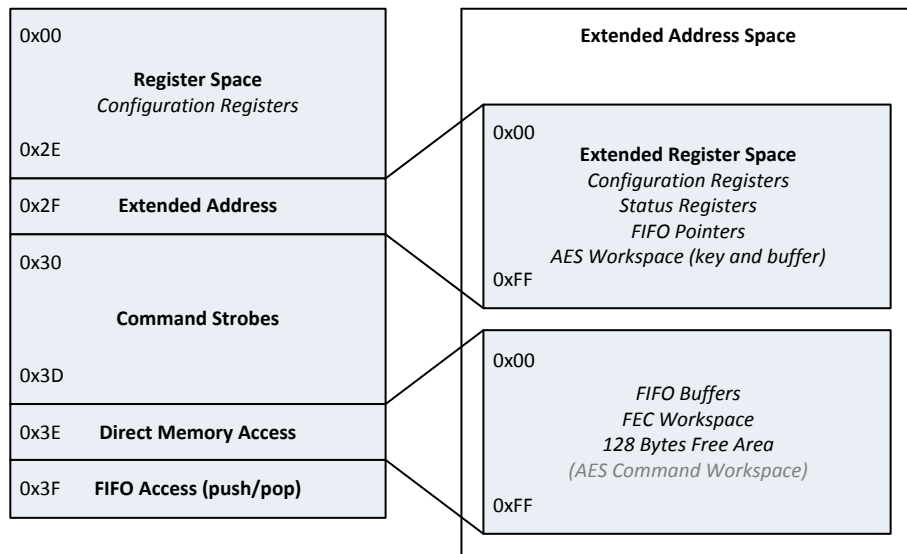

Figure 4: SPI Memory Map¹
Figure 4 shows the SPI memory map and the following sections are going to explain how the different SPI access types (see Table 3) should be used. Table 4 shows the SPI address space.
The configuration registers on the **CC120X** are located on SPI addresses from 0x00 to 0x2E (register space) with address extension command at address 0x2F to access the extended register space (see Figure 4). All configuration registers can be both written to and read and this is controlled by the R/W bit in the header byte. All configuration registers can also be accessed with the burst bit (B) set to either 1 or 0. Note that all registers in register space (address 0x00 - 0x2E) have retention. In extended register space, the status registers, FIFO pointers, and the AES workspace do not have retention. Please see Table 5 for details.